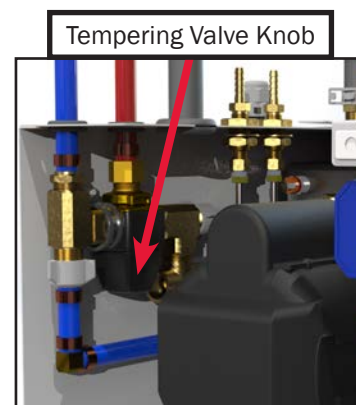

Figure 50
5. Test the tempering valve's functionality by turning the knob (see Figure 50). If the knob does not rotate, this tempering valve will need to be replaced. On newer heaters, it will be necessary to remove a black plastic cap from the body of the tempering valve.